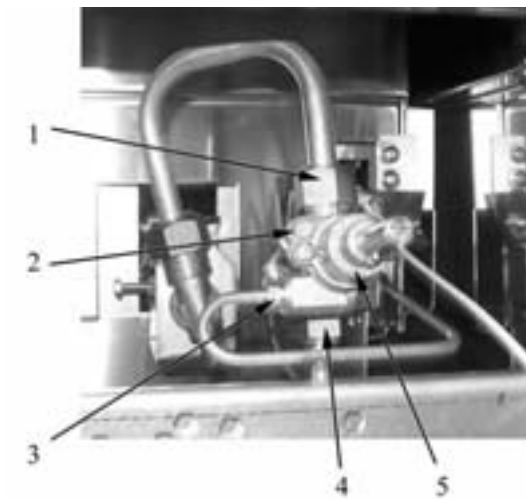

Fig. 9
To operate with liquid gases, the adjustment screw (pos. 1 in Fig. 9) must be screwed right down.
- unscrew the adjustment screw (pos. 1 in Fig. 9) until to reach the pressure indicated.